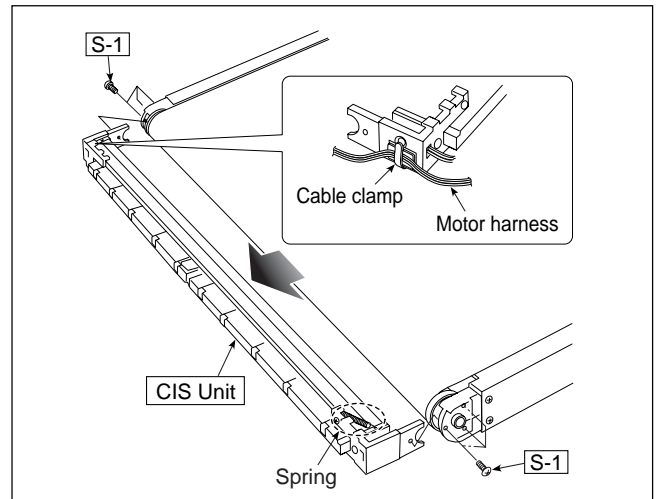

Fig. 4
4) Remove the CIS Unit. (See Fig. 4.)